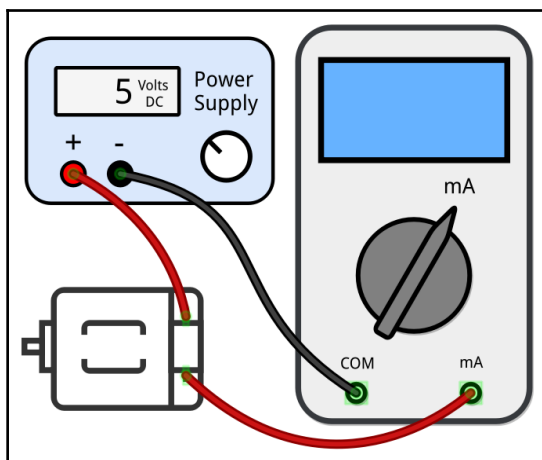

Figure 7.3 – Measuring current with a multimeter
1. Connect up a circuit as shown in *Figure 7.3*:
1. We attach an LED and a  $1k\Omega$  resistor (or a relay) in place of the motor shown in *Figure 7.3*.